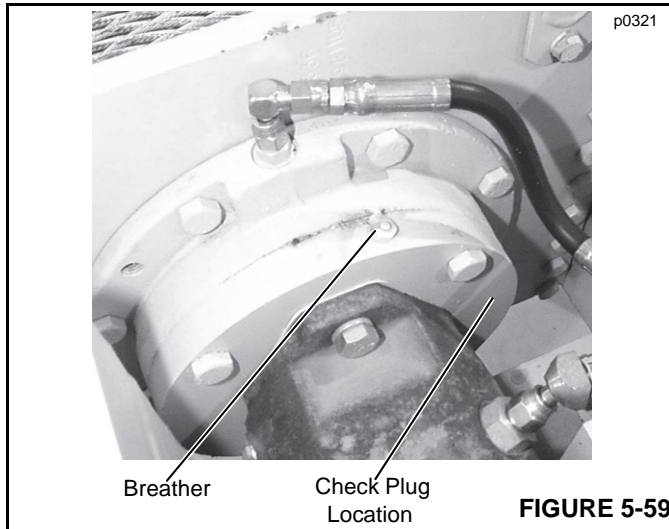

FIGURE 5-59
6. Clean around the area of the brake breather (Figure 5-59). Remove the breather.